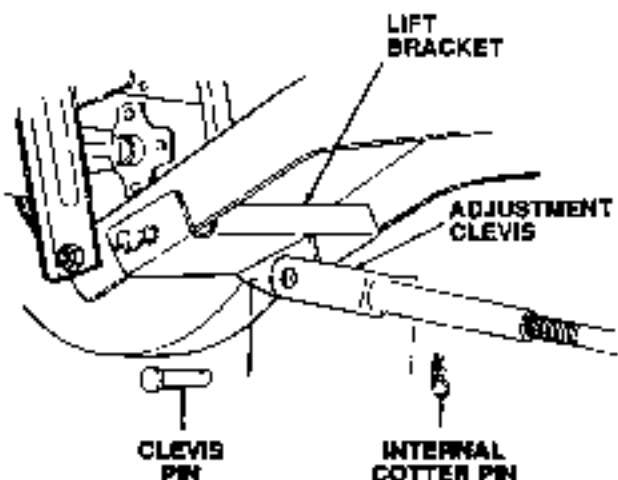

Figure 7-22. Attaching Adjustment Rod to Lift Bracket.
- Turn the adjustment clevis on the lift rod to align with the hole in the lift bracket tab, then insert the clevis pin (11) and secure with an internal cotter pin (13). See Figure 7-22.